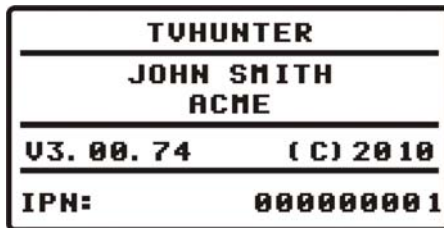

Figure 3.- Name of the instrument (TVHUNTER), user's name (JOHN SMITH), company (ACME) and firmware's version (v3.00.74).
- 5.- Next, a screen will display the instrument's name, company and user names (editable by software) and the current version of firmware (Figure 3.-).